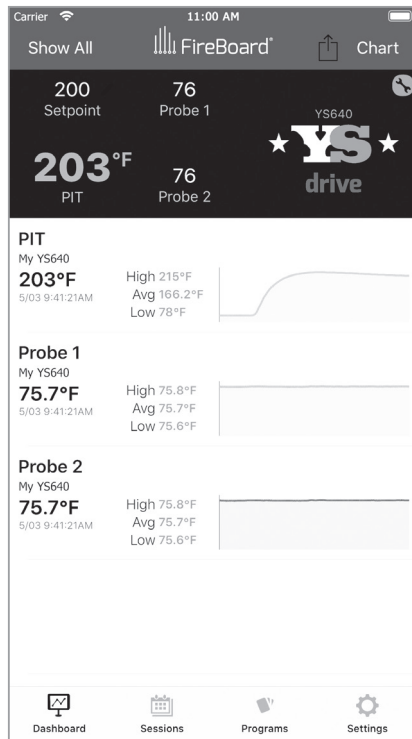

FIG 16
- You can choose between two visualizations of the running temperature data: a basic chart, and a detailed chart. You can toggle between the two by tapping on the word “Chart” or “Detail,” respectively, in the title bar area of the app (FIG 16, 17).